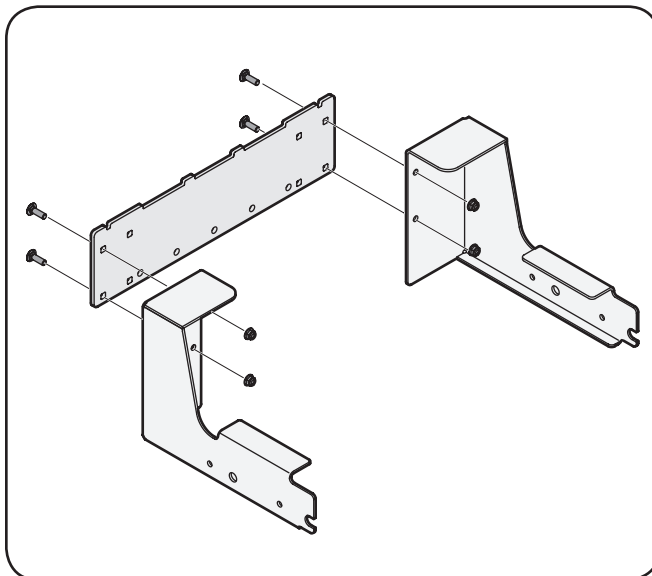

Figure 4-1
To assemble the bagger mounting assembly, locate the mounting assembly parts, as shown in Fig. 4-1, and follow these steps:
1. Attach the two hitch side brackets to the rear attachment bracket using four 710-3008 hex bolts and 712-04063 flange lock nuts from hardware pack 689-00095. See Fig. 4-1.